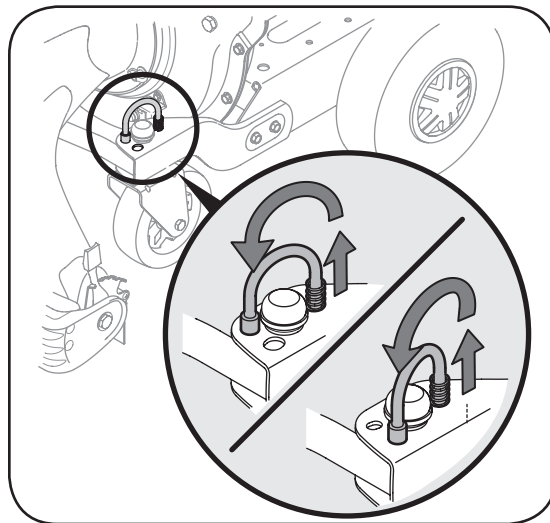

Figure 5-2
1. Lift and place pins in the larger holes for locked or straight ahead operation and when operating on slopes. See Figure 5-2.